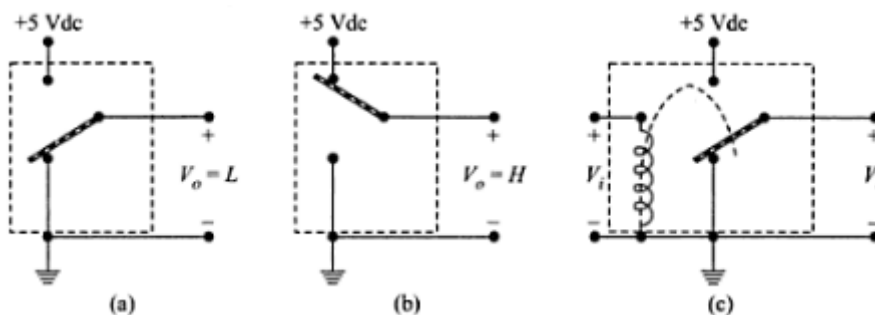

Figure 1.7: (a) Switch (b) Switch (c) Normally low relay
- A *relay* is a switch that is actuated by applying a voltage V_i to a coil (Figure: 1.7).